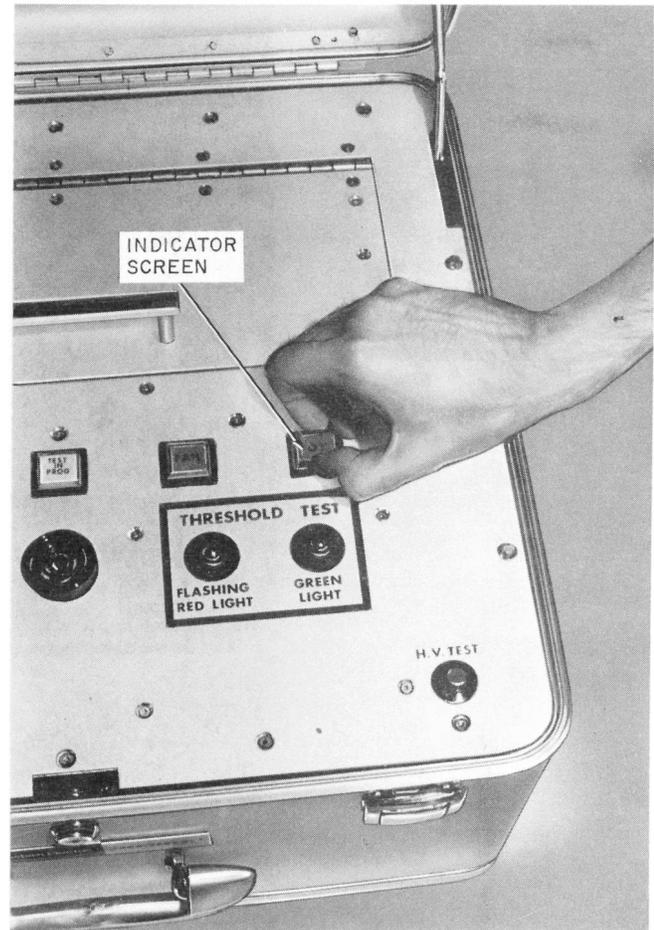
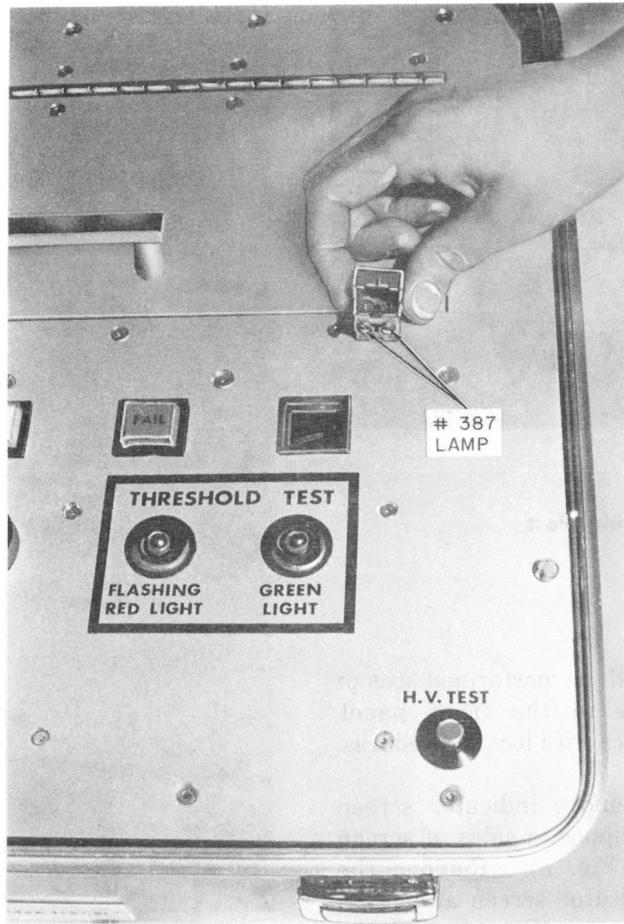

Fig. 8—Removing Lamp Indicator
Fig. 9—No. 387 Lamps
5.02 To replace lamps, remove indicator screen by grasping slots on opposite sides of screen and snap out of housing (Fig. 8). Remove the lamp retainer from the indicator screen and press the lamp out of the retainer (Fig. 9). After replacing the lamp, snap the retainer onto the indicator screen. The replacement lamp is a standard 387-type lamp (Comcode 402464739).